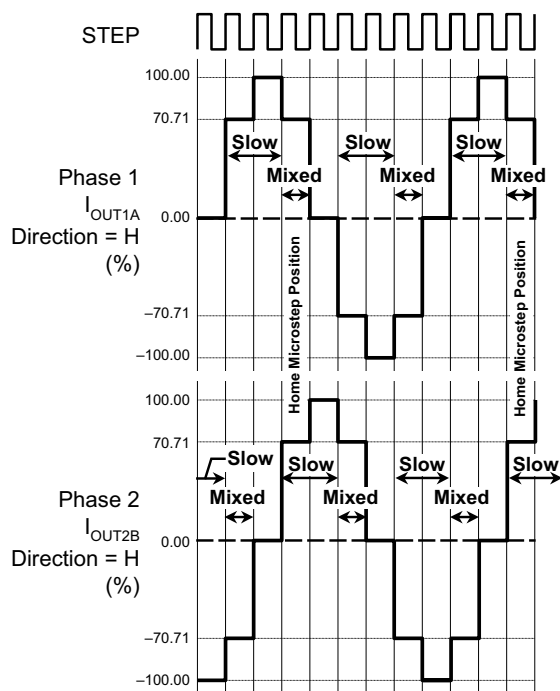

Figure 3. Decay Modes for Half-Step Increments
**Mixed Decay Operation.** The bridge can operate in Mixed Decay mode, depending on the step sequence, as shown in figures 3 thru 5. As the trip point is reached, the A3984 initially goes into a fast decay mode for  $31.25\%$  of the off-time,  $t_{\text{OFF}}$ . After that, it switches to Slow Decay mode for the remainder of  $t_{\text{OFF}}$ .